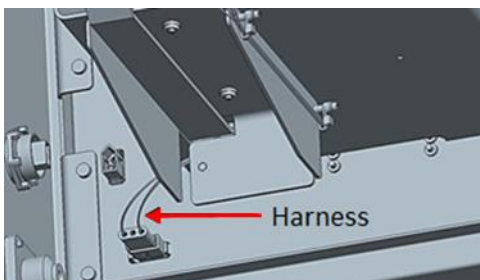

Figure 20: Attach Battery Cable to Backplane
3. Attach the battery cable back contact to the backplane connector as shown in Figure 20.